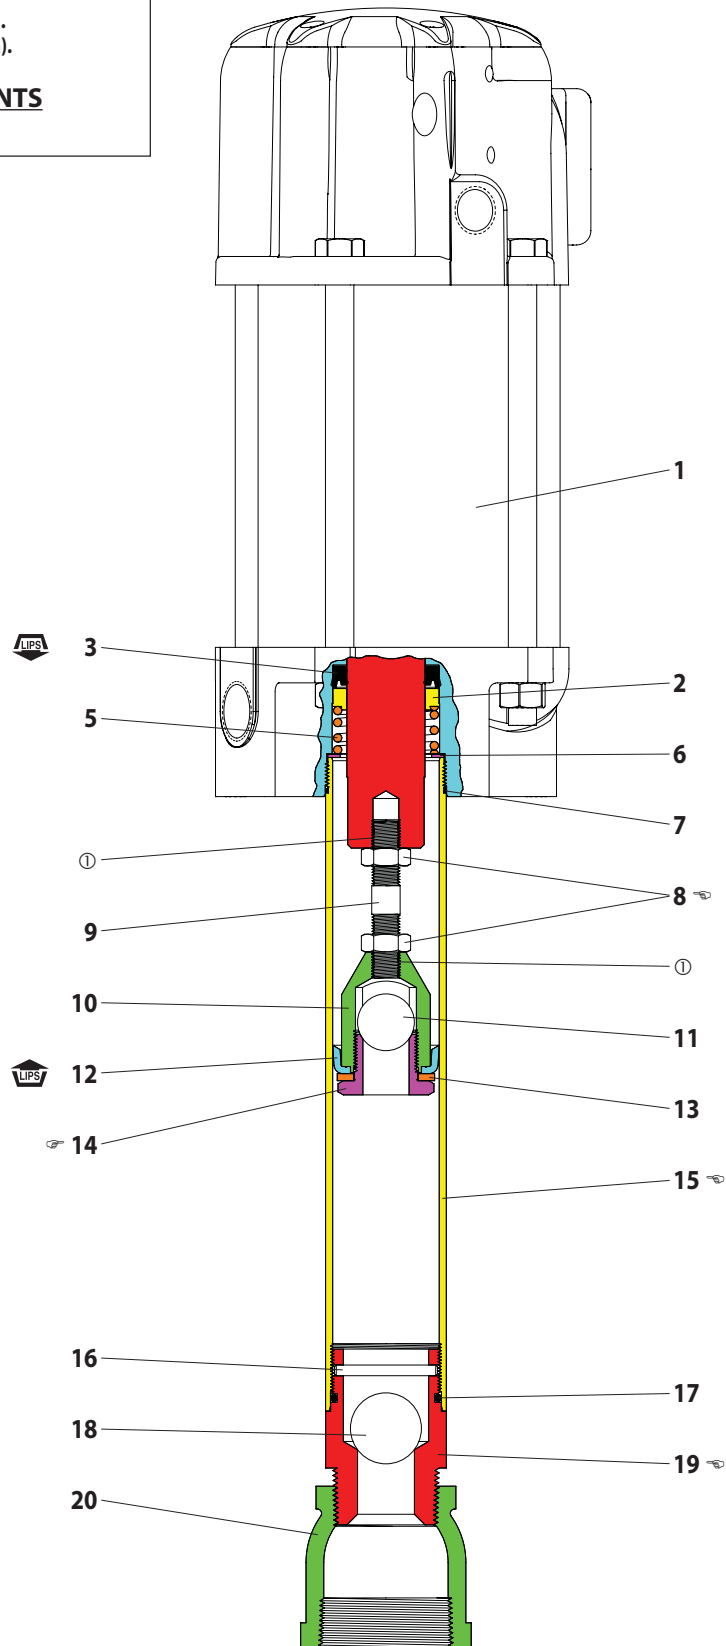

Figure 2
**NOTE: Thoroughly clean and lubricate all seals. Replace all soft parts with new ones included in the repair kit.** Note: Refer to the illustration (figure 2, page 3) for packing lip direction.
- Assemble (17) "O" ring, (18) ball and (16) ball stop pin to (19)
- Assemble (19) foot valve seat and components to (15) tube. NOTE: Tighten (19) foot valve seat to 125 - 150 ft lbs (169.5 - 203.4 Nm).
- Assemble (9) piston rod and (8) nut to (10) cup follower. NOTE: Apply Loctite 242 to threads of (9) piston rod before assembly. NOTE: Tighten (8) nut to 50 - 60 ft lbs (67.8 - 81.3 Nm).
- Assemble (12) cup, (13) washer and (11) ball to (10) cup follower, securing with (14) inner check seat. NOTE: Tighten (14) inner check seat to 65 - 70 ft lbs (88.1 - 94.9 Nm).
- Assemble (3) seal, (2) spacer, (5) spring and (6) washer into cavity in bottom of motor. NOTE: Refer to figure 2, page 3 for packing lip direction.
- Assemble (8) nut and (9) piston rod and components to motor rod, tightening (8) nut against motor rod. NOTE: Apply Loctite 242 to threads of (9) piston rod before assembly. NOTE: Tighten (8) nut to 60 - 70 ft lbs (81.3 - 94.9 Nm).
- Assemble (7) "O" ring to (15) tube and assemble (15) tube over (10) cup follower and components and into air motor base. NOTE: Tighten (15) tube to 90 - 100 ft lbs (122.0 - 135.6 Nm).